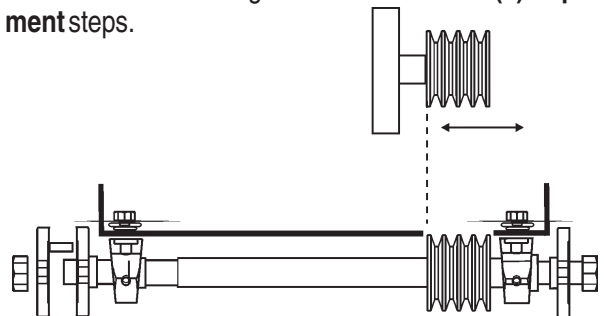
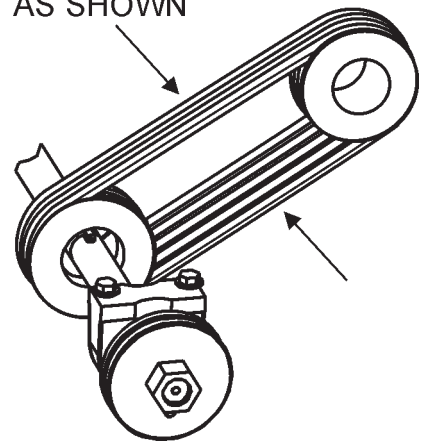

Figure 27. Pulley Alignment
Figure 32. V-Belt Adjustment/Tension
6. Reorient the new pulley on the shaft, and ensure precise pulley alignment by utilizing an accurate straight edge (see Figures 27 and 28).
- Remove **blade flanges** (page 44, items 7 and 8, *Blade Shaft Assembly*) as required to permit the Shaft Bearing(s) to slide off the blade shaft.
- Loosen/remove shaft bearing(s) **hex head cap screws**, page 44, item 11.
6. Tighten the **hex head cap screws**, page 44, item 11 to secure the shaft bearing (s) to the frame.
7. To complete the re-installation process, reverse the order of the above mentioned steps. For V-belt adjustment and tensioning see pages 31 (Figures 27 and 28) and 33 (Figure 32).
1. Tighten down the engine mount **carriage bolt** (page 46, item 7,) and monitor the tension on the belts.
2. Determine the proper tension (Figure 32) by using a tensionmeter against the inside belts at mid point between the two pulleys (6-9 lbs.), or by deflecting the center belts at mid point 3/8" (10 mm) to 1/2" (13 mm).